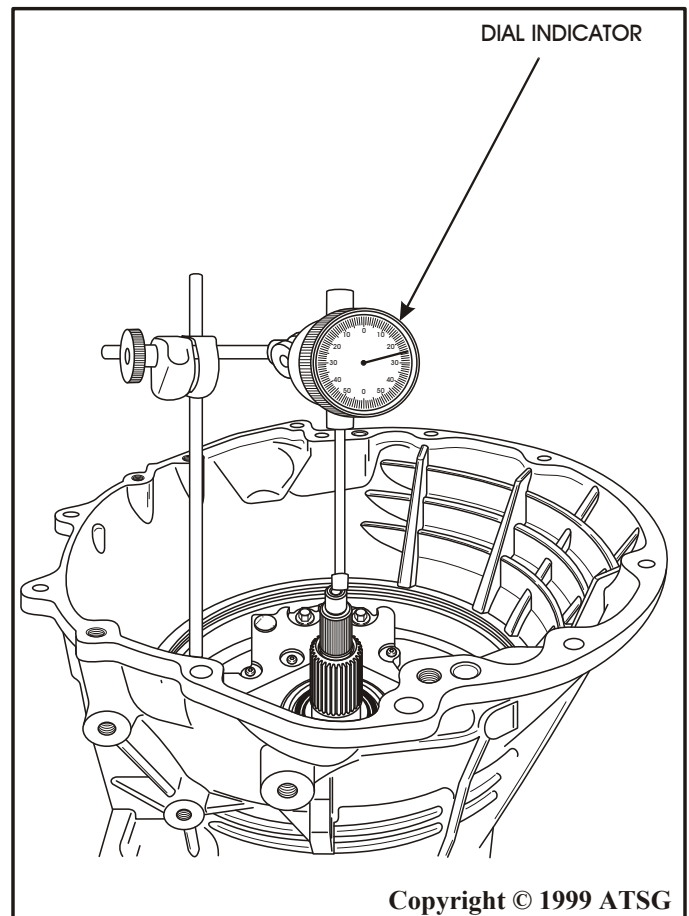

Figure 122
44. Install dial indicator and measure input shaft end clearance as shown in Figure 122. Correct end-play is 0.79-1.07 mm (.031"-.042").